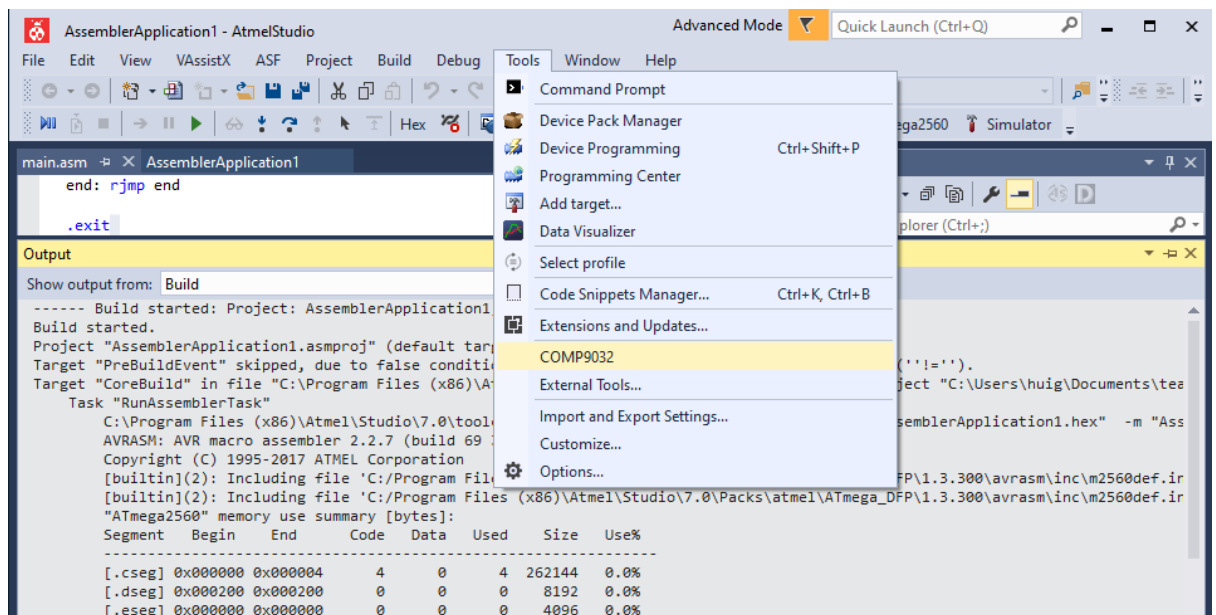

Figure 5
- 4) In an opened project, click on the added tool name, as shown in Figure 5. The .hex file generated in the project will be downloaded.